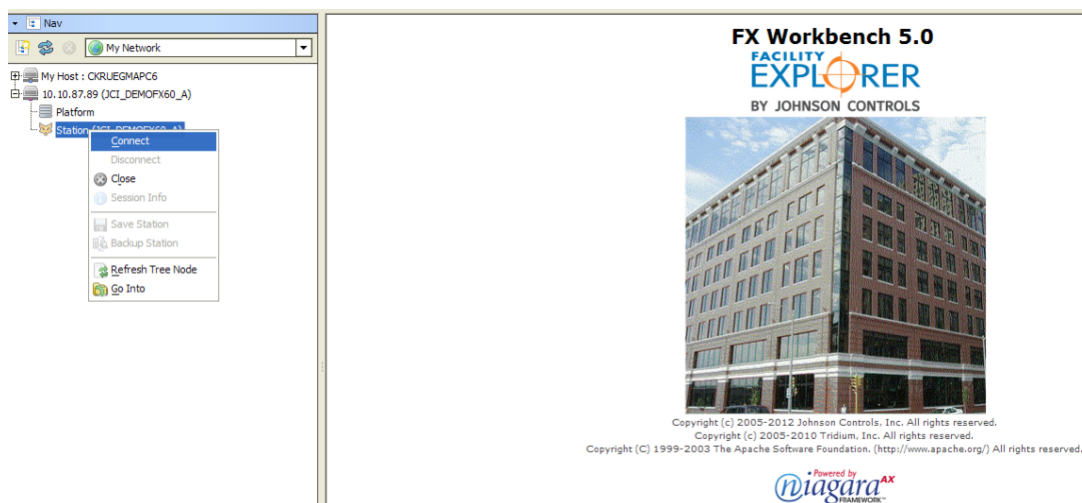

Figure 13: Connecting to a Station
1. Right-click the desired station, and click **Connect** (Figure 13).